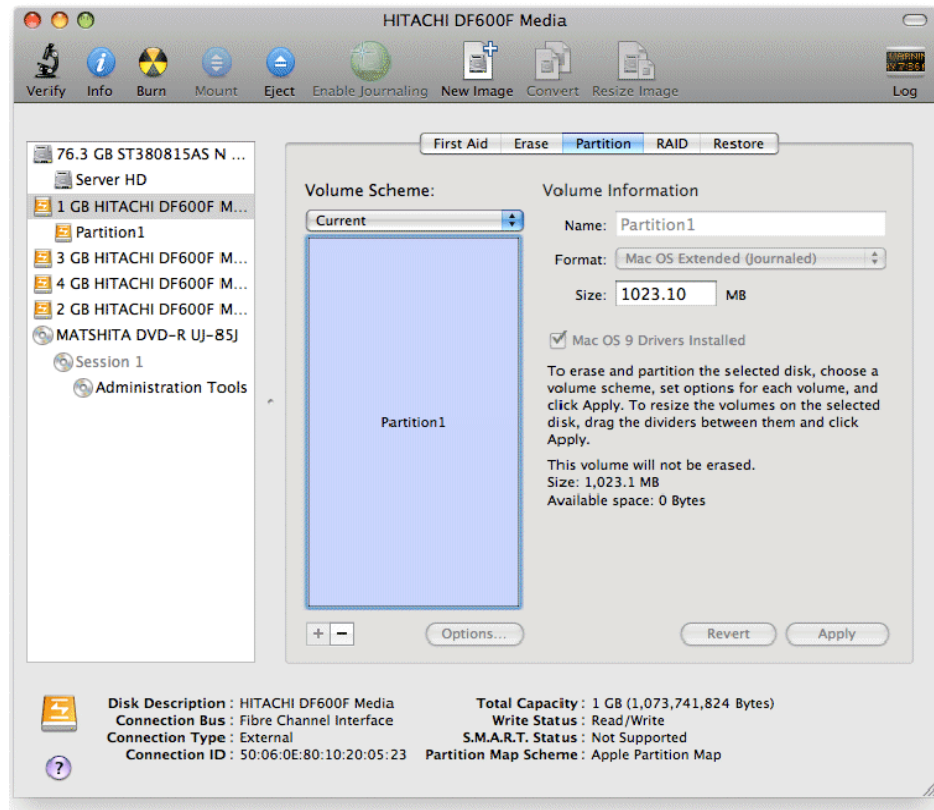

Figure 8-5: Example of Selecting a Drive
4. In the left pane (Figure 8-5), select the disk you want to use (for example, the disk you want to partition).